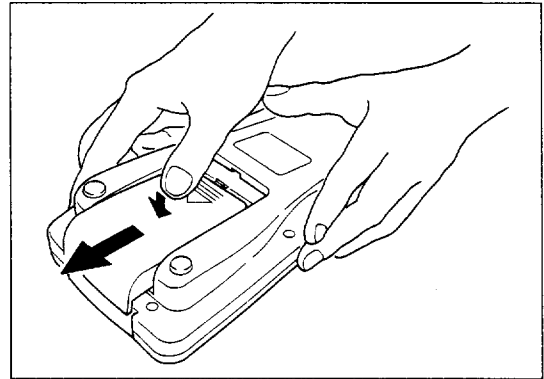

Figure 16
- (1) Slide the battery cover off the back panel of the remote controller while pressing it with a finger (see Figure 16).
- (2) Remove the old dry cells. Insert new dry cells in the correct orientation.
- (3) Replace the battery cover.